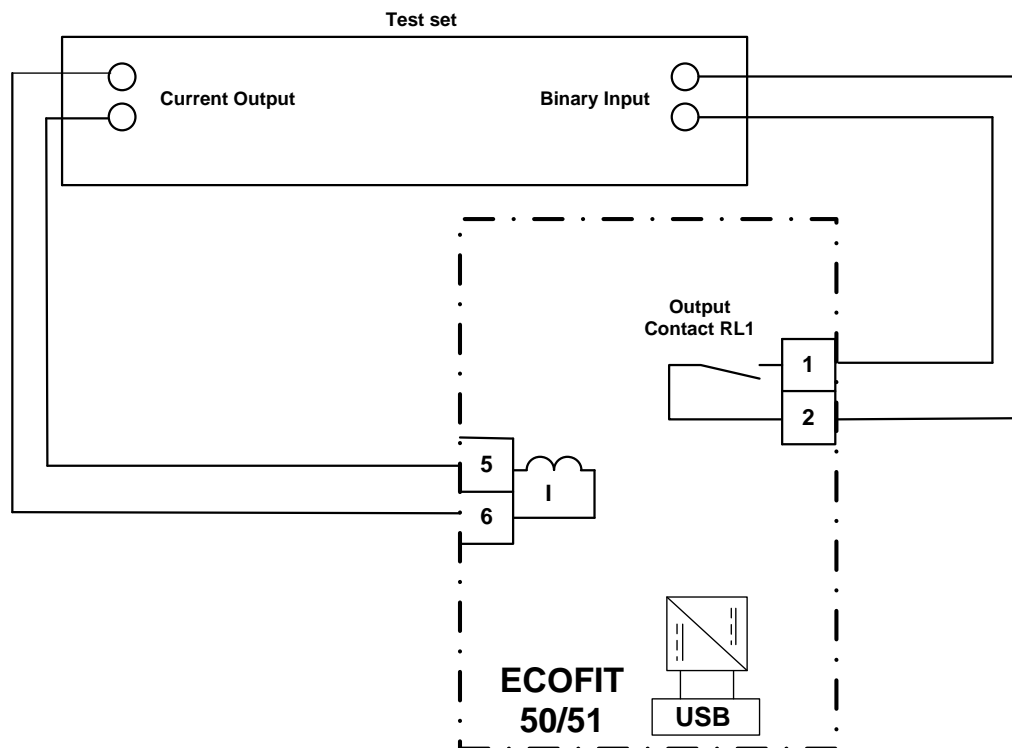

Figure 7-1 - Connection of the relay to a test set
- 2- Connect a test set to the relay as shown in Figure 7-1. The test set needs to provide high power as explained in General Consideration section.